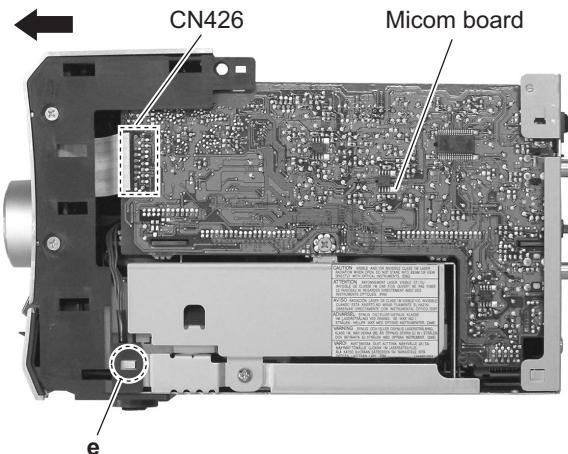

Fig.8
- (2) From the forward side of the micom board, disconnect the card wire from the connector **CN426**. (See Fig.8.)